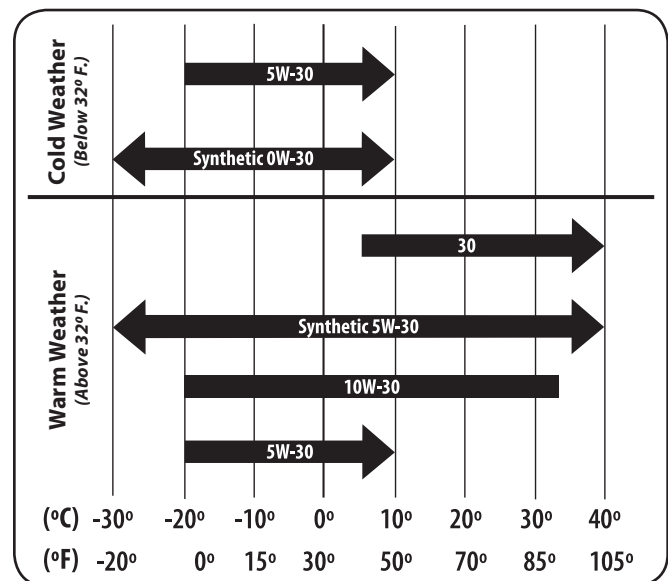

Figure 6-1
Refer to the viscosity chart (Figure 6-1) for oil recommendations. Do not over-fill. Use a 4-stroke, or an equivalent high detergent, premium quality motor oil certified to meet or exceed U.S. automobile manufacturer's requirements for service classification of a minimum level SF or SG (higher letter ratings are acceptable such as SJ, SL and SM grades). Motor oil will display this designation on the container.
9. Fill with the recommended Oil. See Figure 6-1.